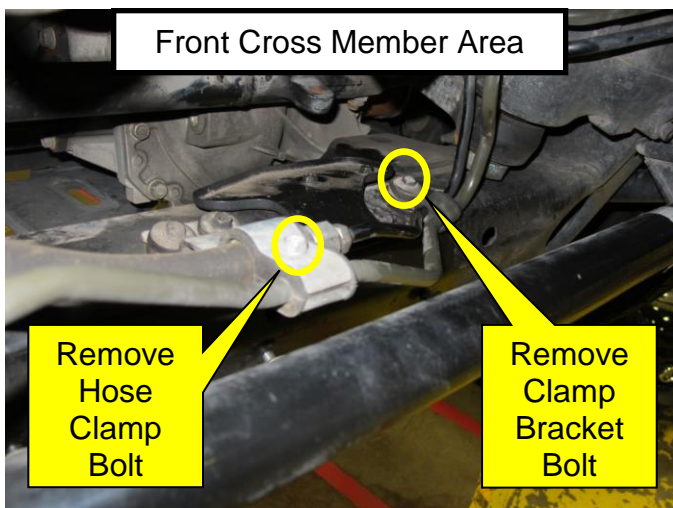

Figure 5
- Remove the power steering hose clamp and the power steering pipe clamp bracket bolts from the front cross member (Figure 5).